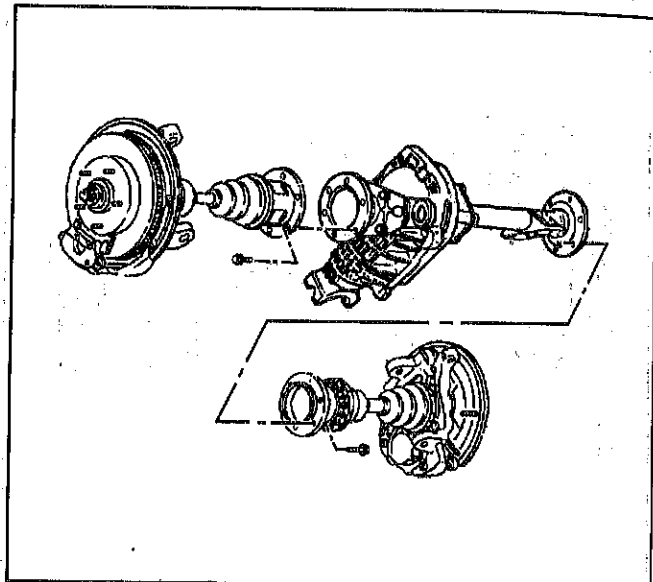

Figure 5—Drive Axles
10. Bolts (Figure 5).
7. Bolts (Figure 5).